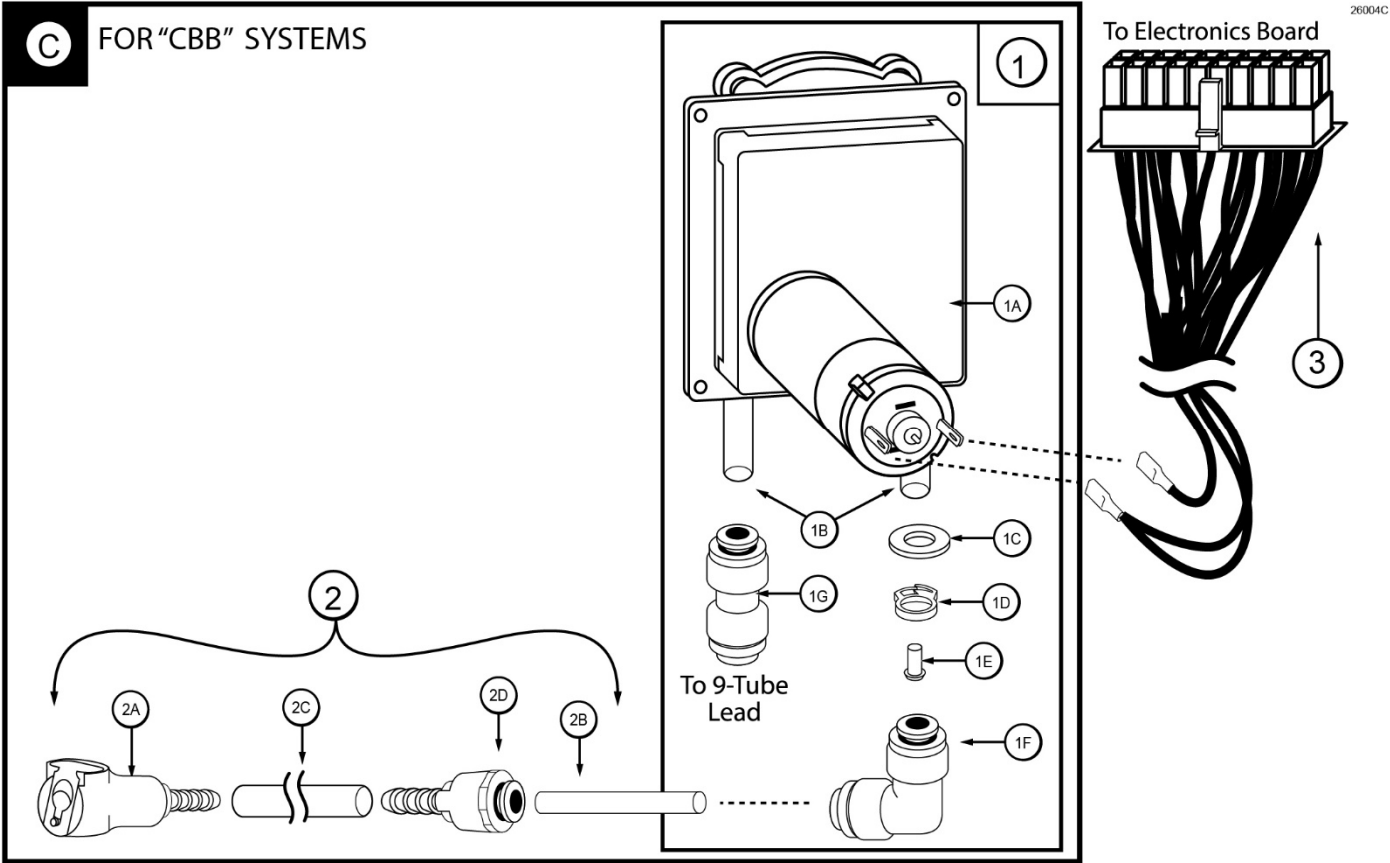

Figure 4C
**Premium Beverage Syrup Pump and Related Parts (See Figure 4C)**